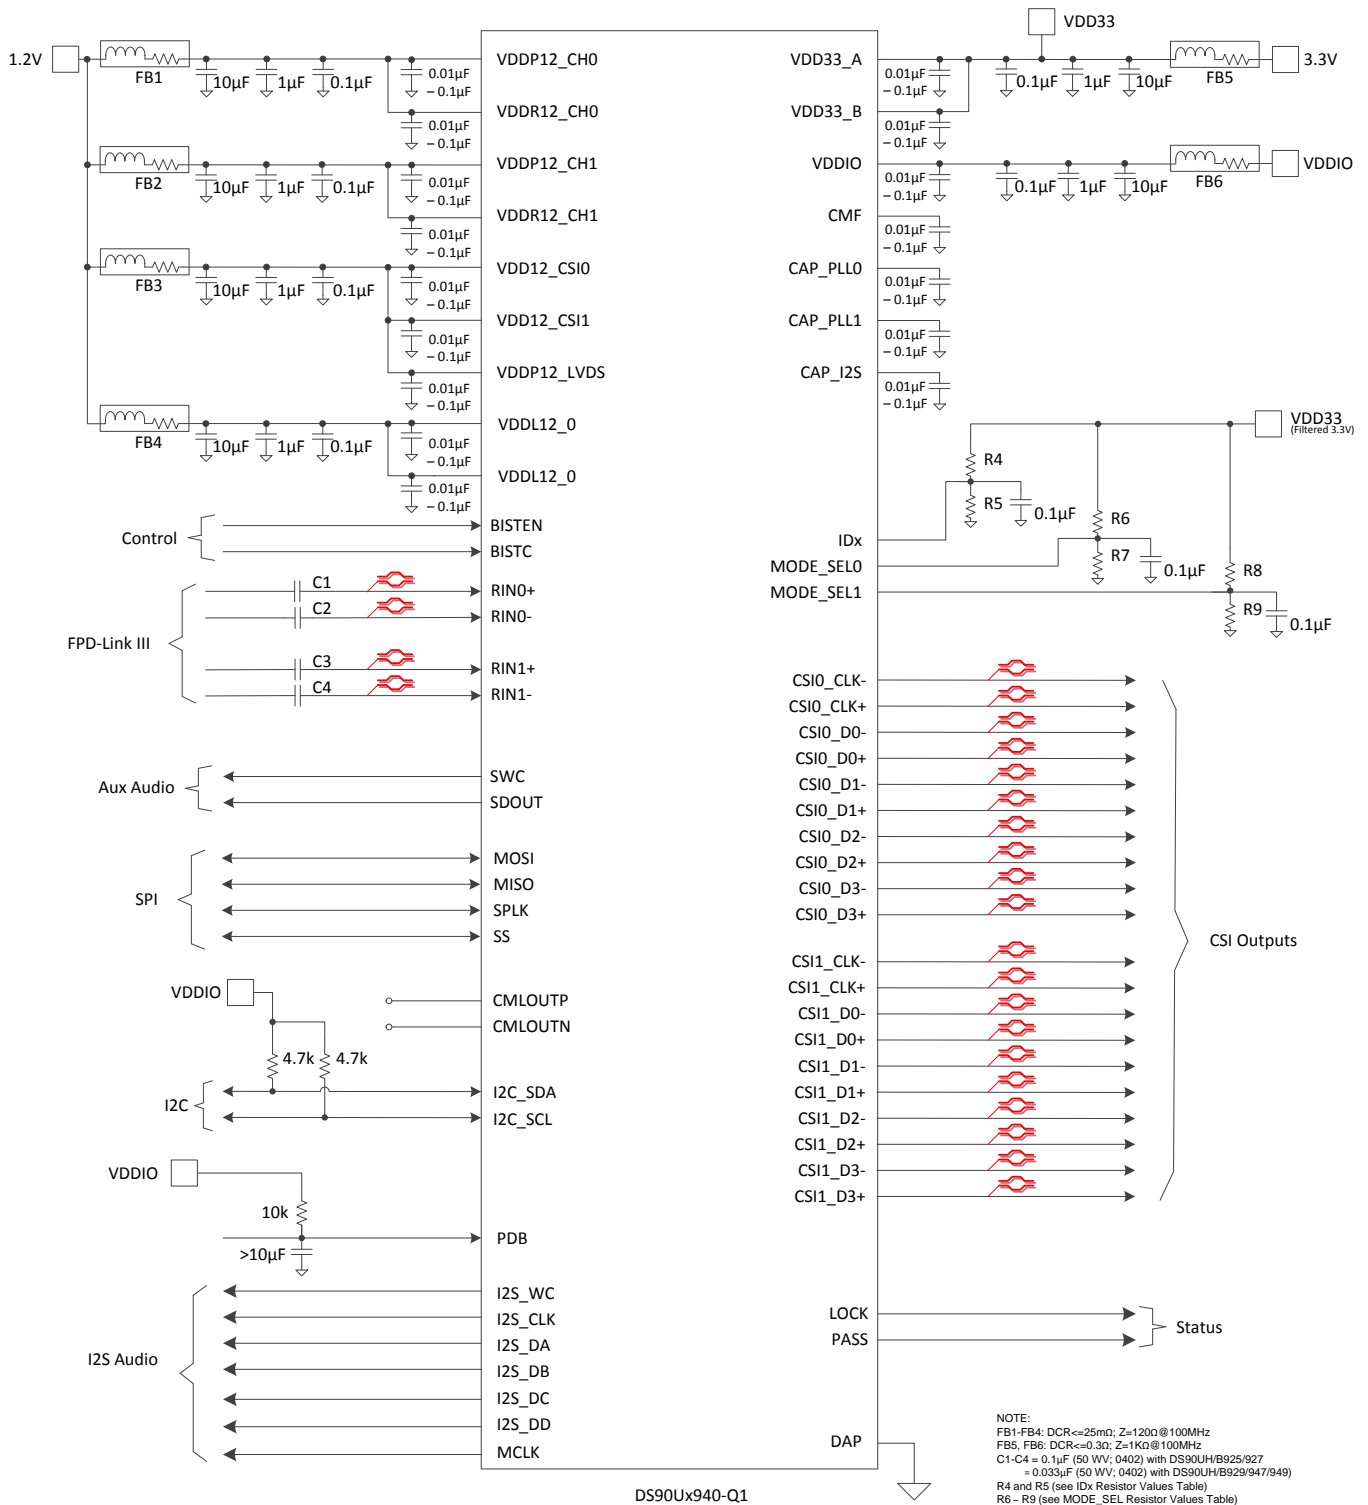

Figure 36. Typical Connection Diagram (STP)
Bypass capacitors should be placed near the power supply pins. At a minimum, four (4) 10μF capacitors should be used for local device bypassing. Ferrite beads are placed on the two sets of supply pins (VDD33 and VDDIO) for effective noise suppression. The interface to the graphics source is LVDS. The VDDIO pins may be connected to 3.3V or 1.8V. A capacitor and resistor are placed on the PDB pin to delay the enabling of the device until power is stable. See Figure 36 for a typical STP connection diagram and for a typical coax connection diagram.